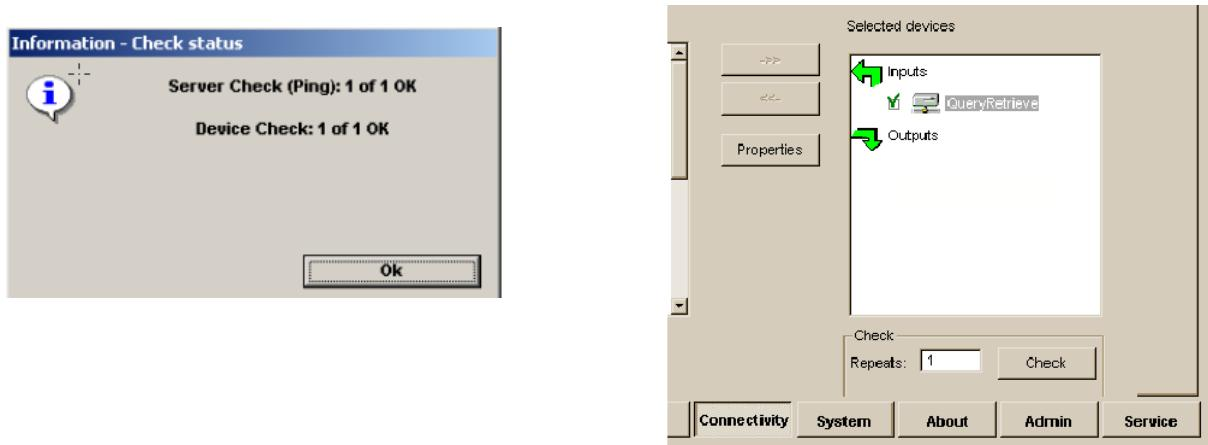

Figure 3-89 Test (Check) Passed
- If the test passes, a pop-up dialog is displayed, see left illustration in Figure 3-89.Select **OK** to continue. A green check mark to the left of the Selected devices indicates that the test passed successfully.